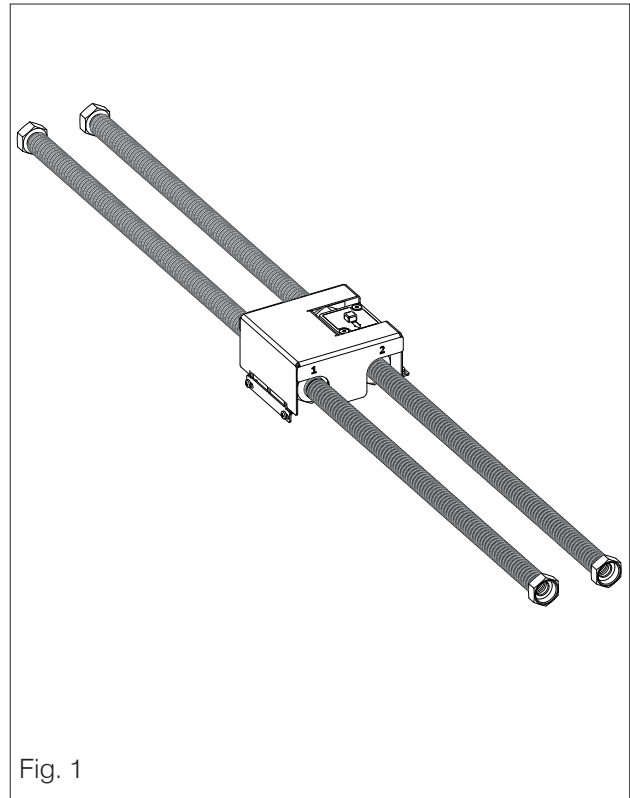

Fig. 1
- Le Kit Anti-condensation assemblé (fig 1)